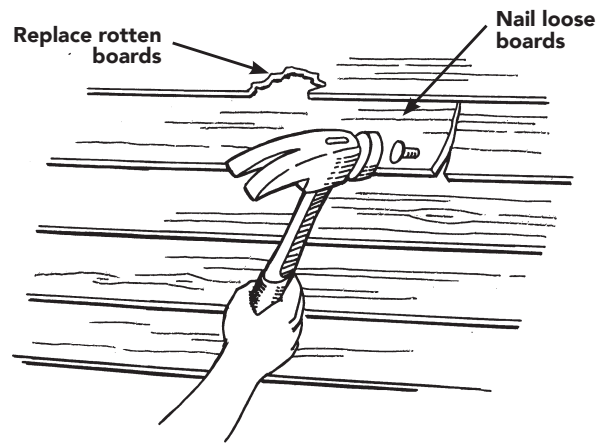

Figure 22
- Nail down loose boards of existing siding and replace any rotten ones (Figure 22). Do not install vinyl siding over rotting wood.